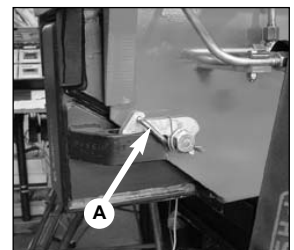

fig. 10
- Disengage the locking devices of the outrigger supports by putting the levers A from the position of the fig. 10 to the one of the fig. 10a.
Keep hands clear of automatic stop device of the outrigger supports (Fig. 10).
- (!) **Always check that the outrigger supports, once in their rest position, are locked in their seat by the safety devices, so as to assure the impossibility of accidental movement. (Fig. 10).**
- Disengage the locking devices of the outrigger supports by putting the levers **A** from the position of the fig. 10 to the one of the fig. 10a.
**Keep hands clear of automatic stop device of the outrigger supports. (Fig. 10).**